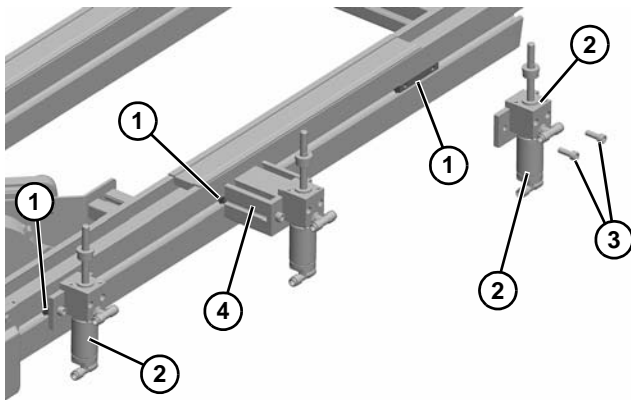

Figure 87
1. Install drop-in tee bars (**Figure 87, item 1**) in conveyor rail channel.
2. Loosely fasten cylinder assemblies (**Figure 87, item 2**) to conveyor rail with socket head screws (**Figure 87, item 3**) as shown.
3. Repeat for cylinder assembly with spacer (**Figure 87, item 4**).